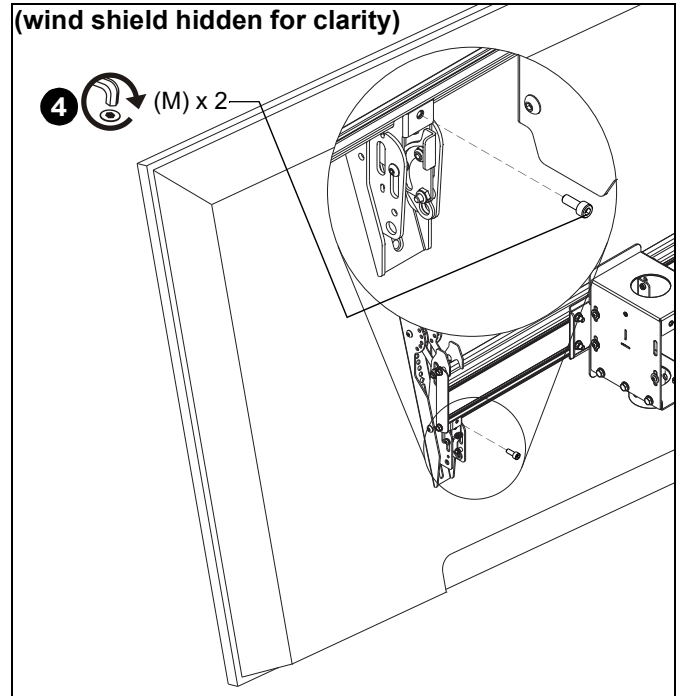

Figure 13
4. Fasten brackets against ceiling mount extrusion using two #10-24 x 1/2" socket head cap screws (M). (See Figure 13)